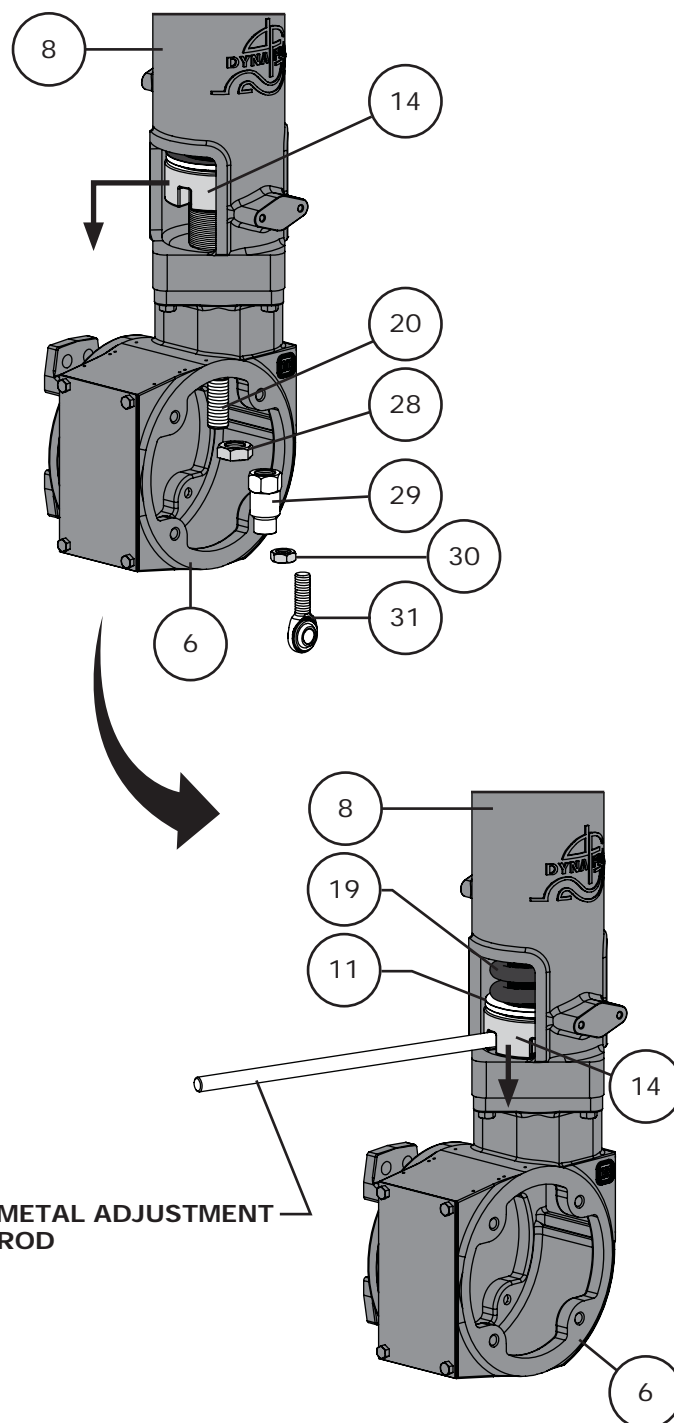

Figure 14 Turnbuckle Assembly Removal
- 1 Refer to Figure 14, then remove the rod end bearing (Key 31), lower hex nut (Key 30), turnbuckle (Key 29), and left-hand threaded hex nut (Key 28) from the diaphragm rod (Key 20). **Note:** It may be necessary to apply operating pressure to the actuator (or adjust the handwheel if one is installed) to be able to access the turnbuckle and left-hand threaded hex nut. Use caution and avoid pinch points while the diaphragm rod is moving, be sure that the diaphragm rod or rod end bearing do not make contact with the valve shaft (Key V).
- 2 Relieve all operating pressure and/or rotate the handwheel counterclockwise to remove spring tension if a handwheel is installed. Using the metal adjusting rod (refer to Special Tools Required) remove spring tension by turning the spring adjuster (Key 14) down to the bottom of the adjustment screw (Key 9), refer to Figure 14.